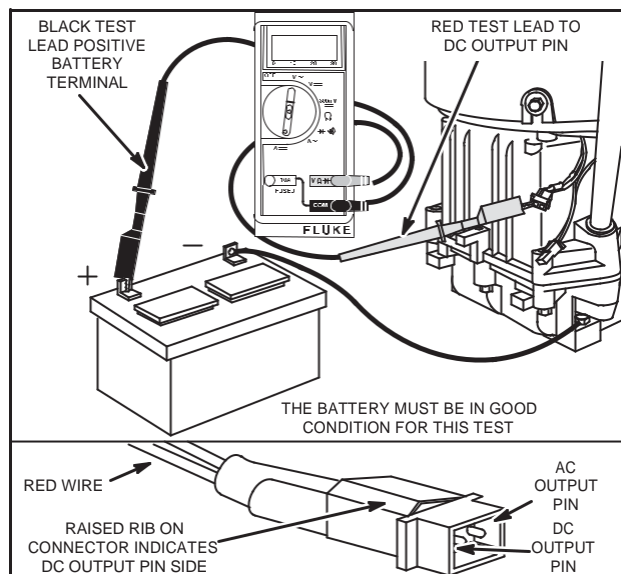

Fig. 13 – Testing DC Output
4. Attach RED test lead clip to DC output pin in connector, Fig. 13.